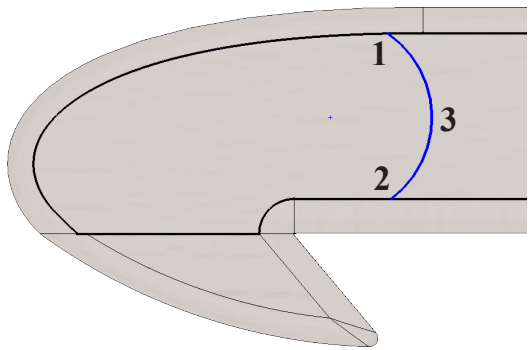

Fig. 4
Step 1. Click **3 Point Arc**  (S) in the Arc flyout  on the Sketch toolbar.
Step 2. Draw an arc across the Fuselage. To draw arc, click Point 1 for start point and Point 2 for ending point, then Point 3 for third point, **Fig. 4**.